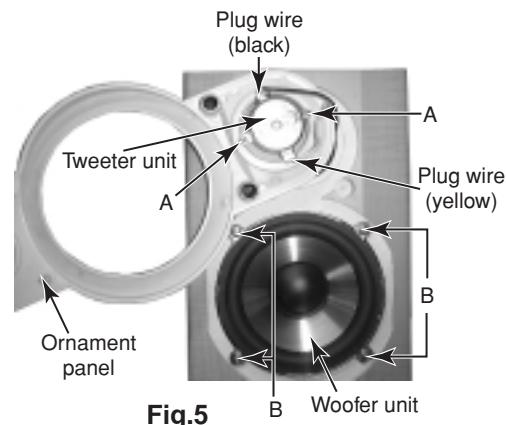

Fig.5
■ Removing the tweeter unit (See Fig.5)
2. Remove the four screws B attaching the woofer unit. (See Fig.5)